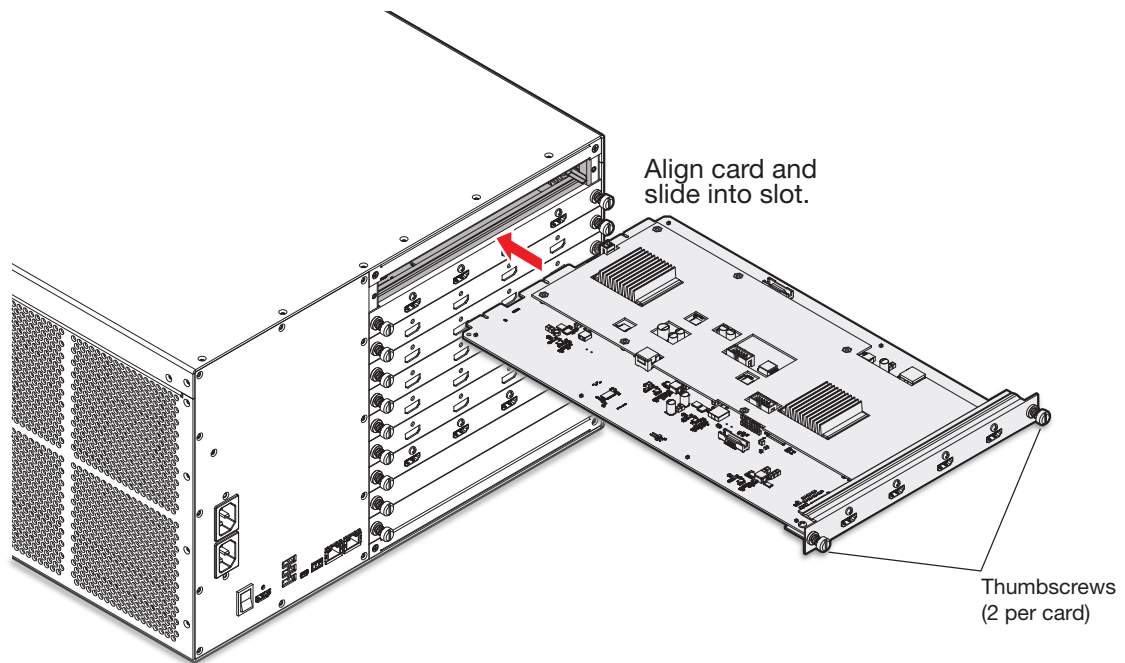

Figure 96. Installing a New Input or Output Card
2. On the processor rear panel, loosen the two thumbscrews at the right and left edges of the card to be removed (see figure 96 on the next page for the locations).